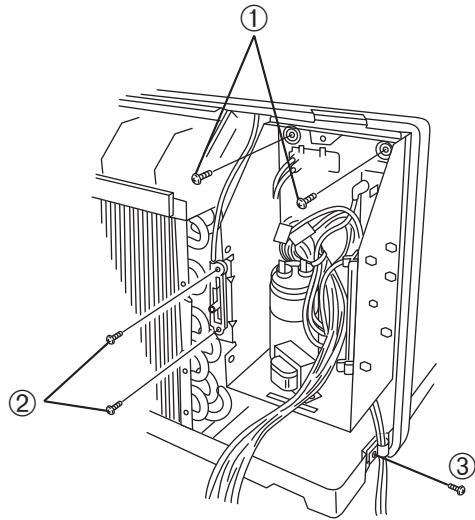

Fig. 5
(3) Remove the following screws. (Fig. 5)
- ① 2 screws holding the component box
- ② 2 screws holding the ventilator knob
- ③ 1 screw holding the power supply cord